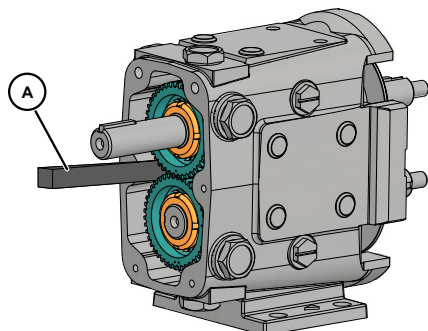

Figure 41 - Block Shaft Rotation
2. Prevent the shafts from turning by placing a wedge or soft dowel between the gears (Figure 41, item A). Use a gear nut driver tool (see below) to remove the gear locknut. The gears will be removed later.